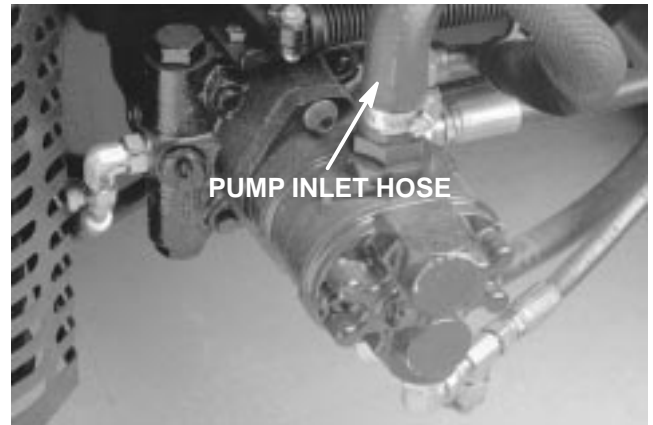

Figure 19
5. Drain hydraulic reservoir as follows (Fig 19):